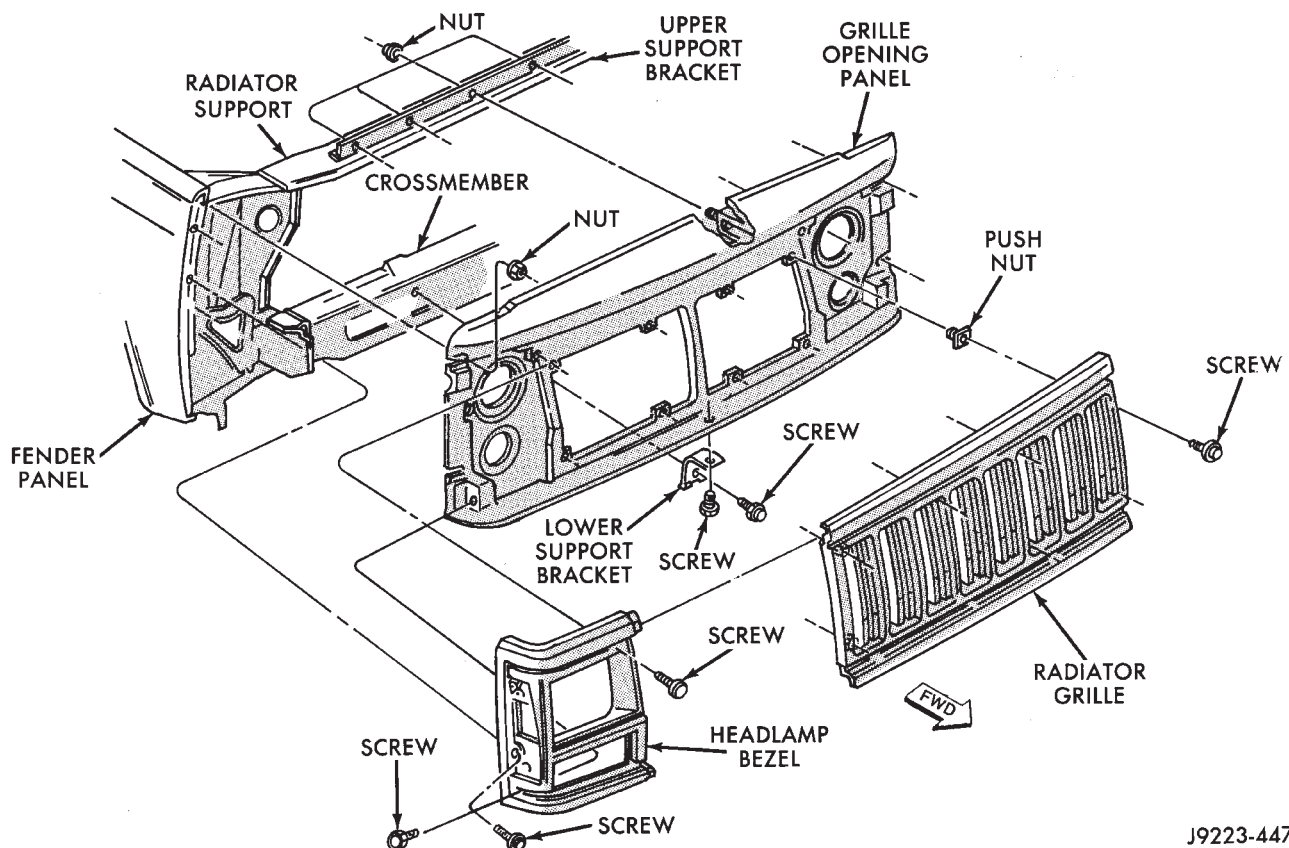

Fig. 2 Grille & GOP
(1) Remove the screws and grille (Fig. 2) from the grille opening panel (GOP).